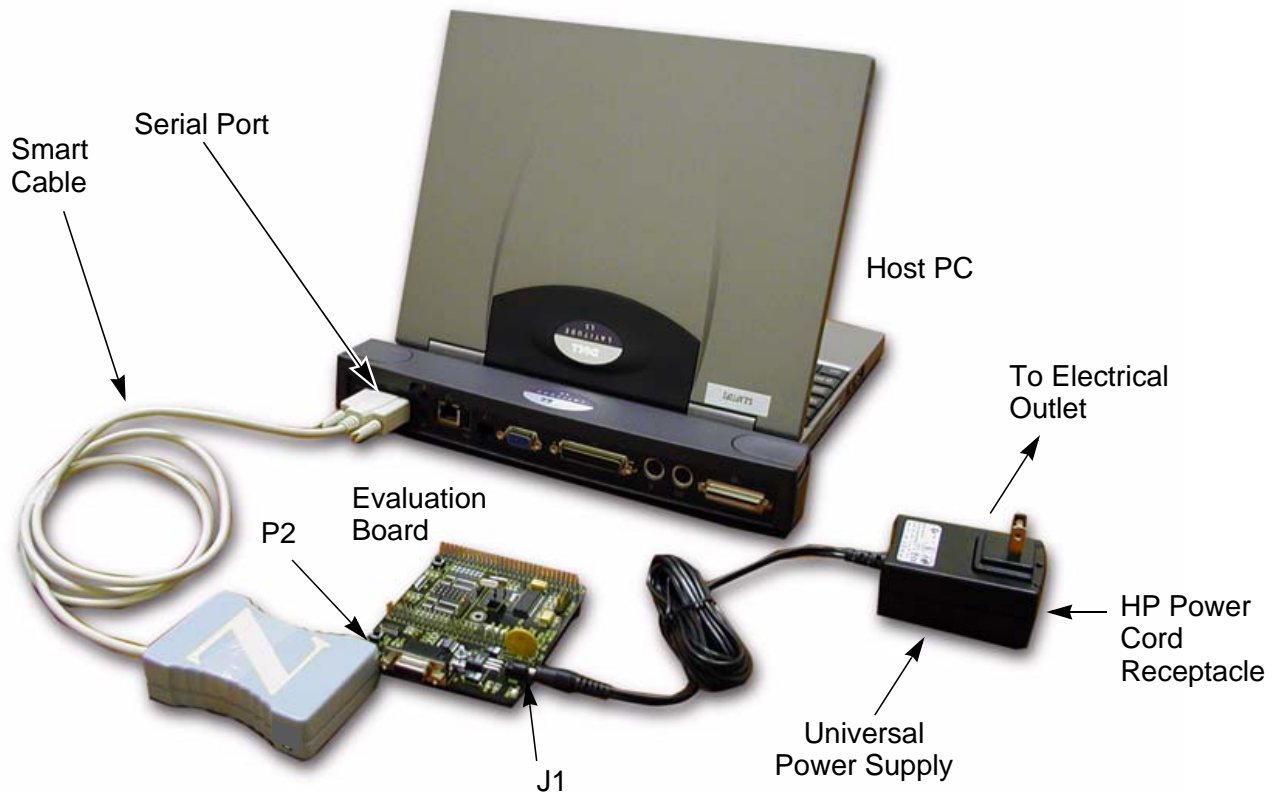

Figure 1. Evaluation Board External Connections
3. Connect the power supply to the evaluation board at J1, then to an electrical outlet (Figure 1).